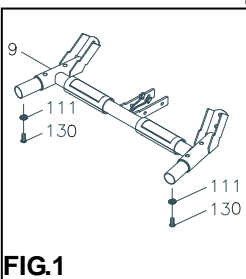

FIG.1
NOTE: For shipping purpose, 2pcs Lock Washer (M8)(111) and 2pcs Bolts, Button Head (M8xp1.25x16mm)(130) are attached to bottom of the U-Shaped Handlebar Stand (9) as FIG. 1 shown on the left.